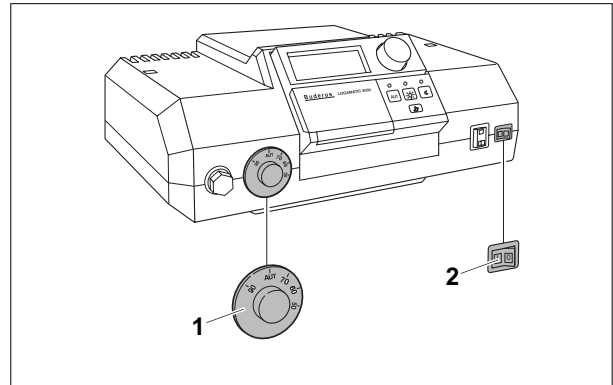

Fig. 2 Turning on heating system (Logamatic 2000)
**When using a Buderus Logamatic control (Fig. 2)**
**Buderus Logamatic Control (Fig. 2)**